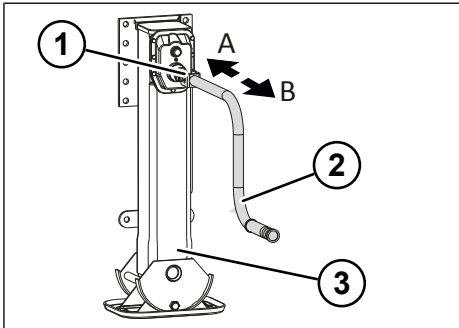

Fig. 5-2: Load speed and rapid speed of the landing leg winch
- ▶ Switch on rapid speed by pulling out the hand crank (see "Fig. 5-2: Load speed and rapid speed of the landing leg winch", pg. 23).
- ▶ Switch on load speed by pushing in the hand crank (see "Fig. 5-2: Load speed and rapid speed of the landing leg winch", pg. 23).
- ▶ Set to load speed by pushing in the hand crank (see "Fig. 5-2: Load speed and rapid speed of the landing leg winch", pg. 23).
- ▶ Set to high speed by pulling out the hand crank (see "Fig. 5-2: Load speed and rapid speed of the landing leg winch", pg. 23).